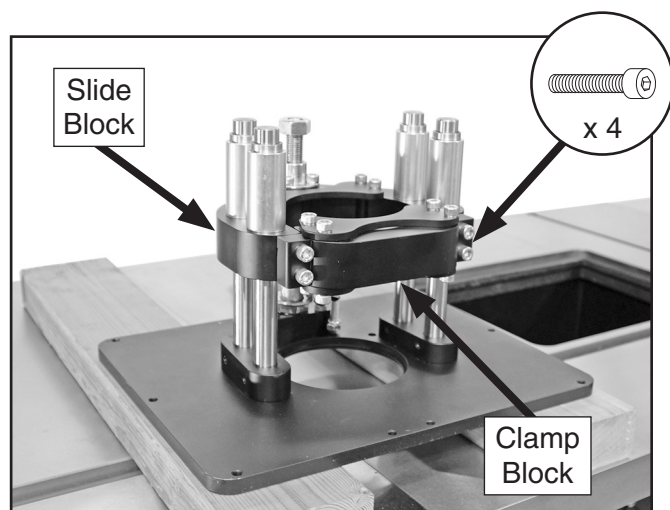

Figure 36. Lift assembly resting on blocks of wood.
2. Remove lift assembly from router table and place upside down on two blocks of wood (see **Figure 36**) so router collet can extend through the center hole in the mounting plate.
3. Loosen (4) cap screws that secure clamp block to slide block (see **Figure 36**).